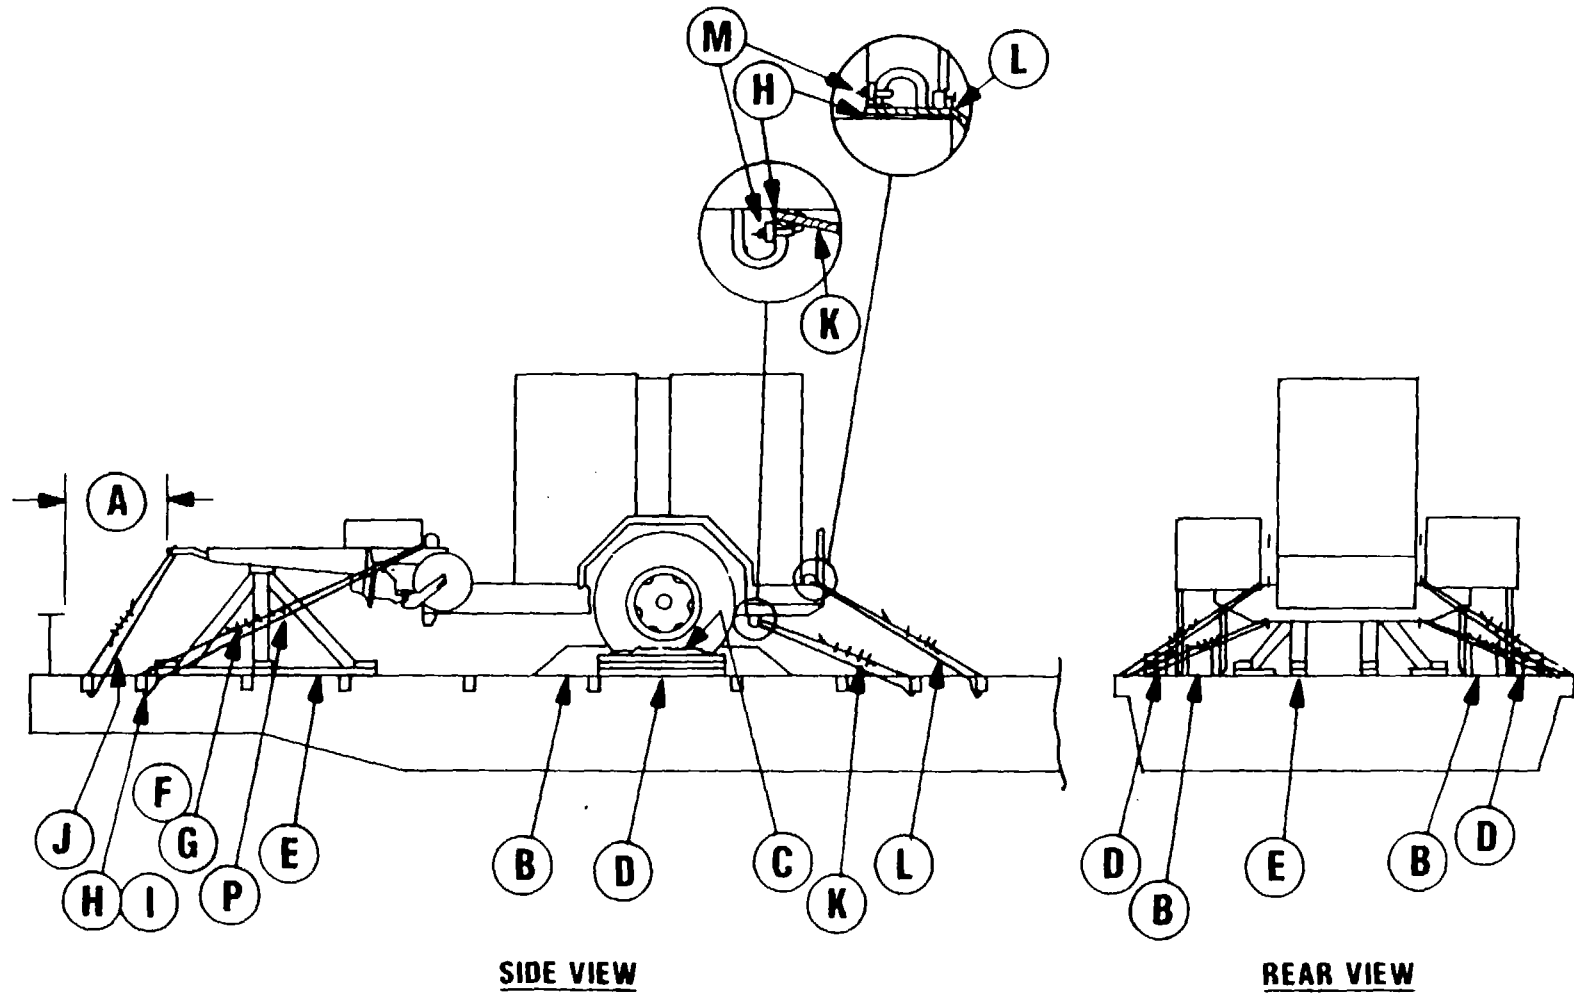
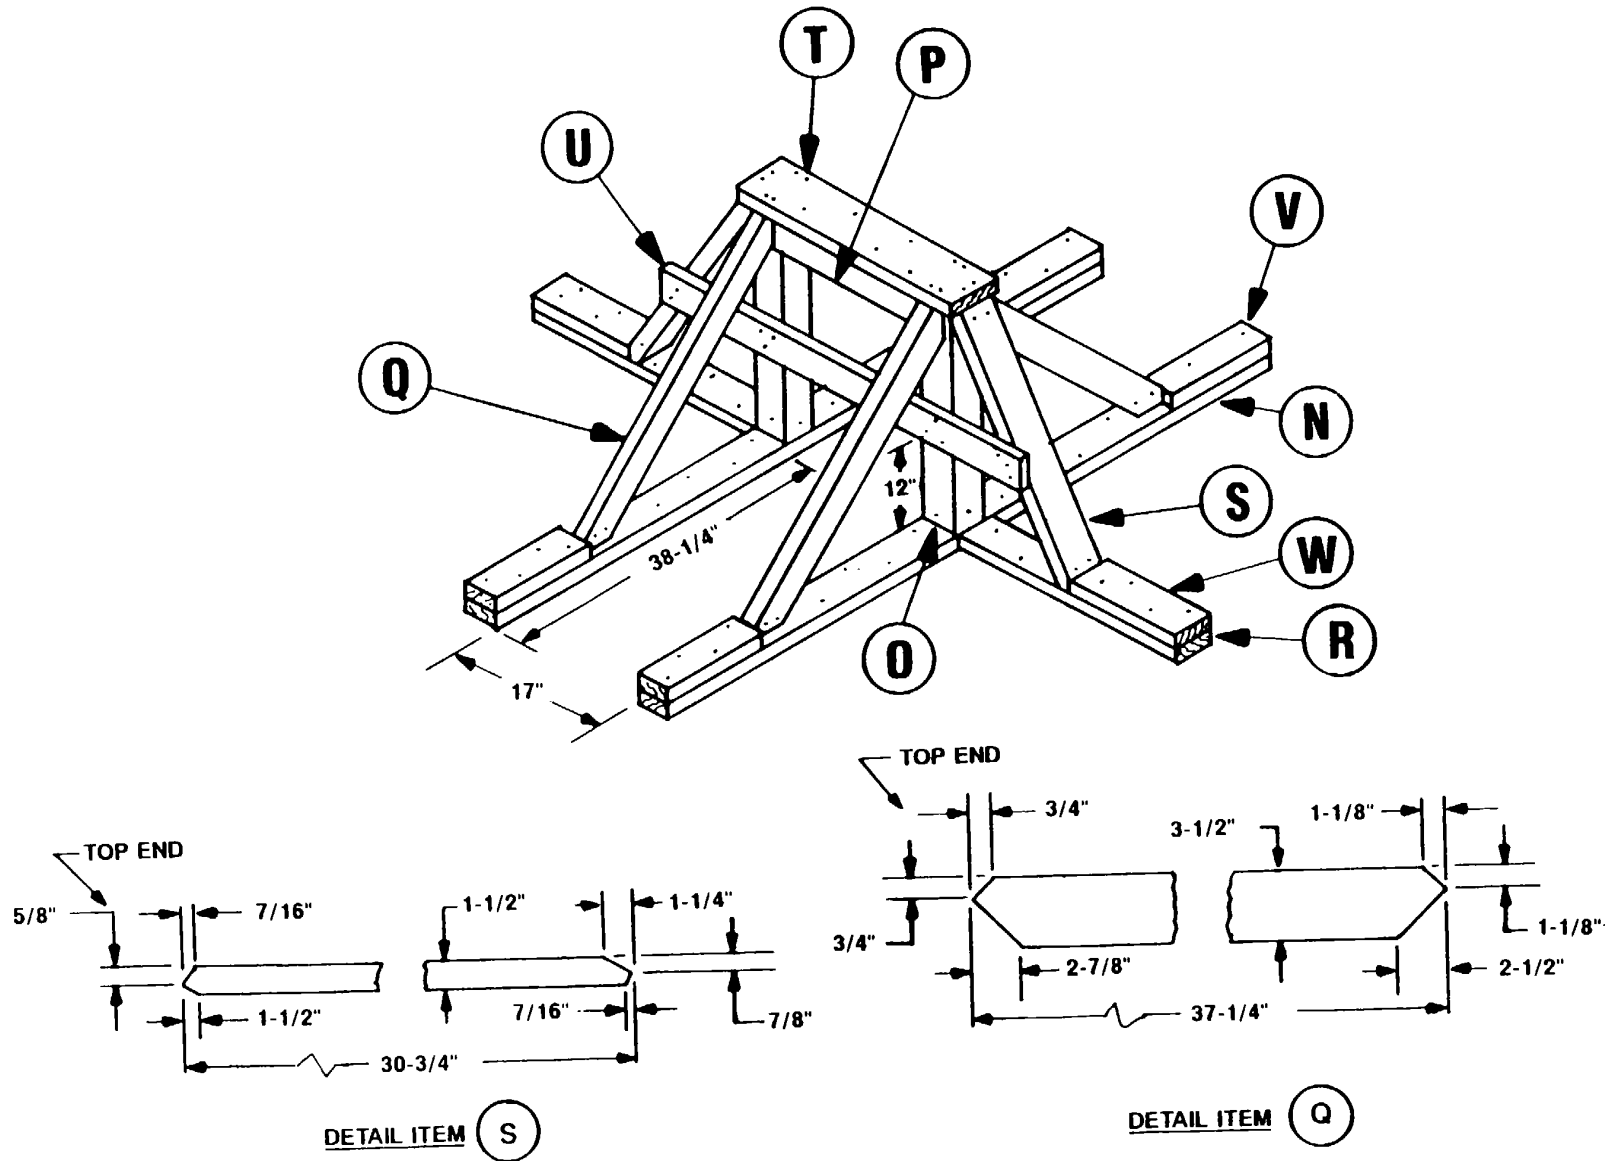

Figure 7-6. Blocking and tiedown of the PATRIOT system trailer-mounted components on CONUS general-purpose fatcars.
Figure 7-7. Forward support blocking assembly for trailer-mounted components.
e. Figure 7-6 shows the typical loading of the PATRIOT system trailer-mounted components, including the EPU II, on general-purpose flatcars. Figure 7-7 shows construction of the forward sup-
Table 7-7. Bill of Materials for Blocking and Tiedown of the PATRIOT System Trailer-Mounted Components on CONUS General-Purpose Flatcars (Figs 7-6 and 7-7)